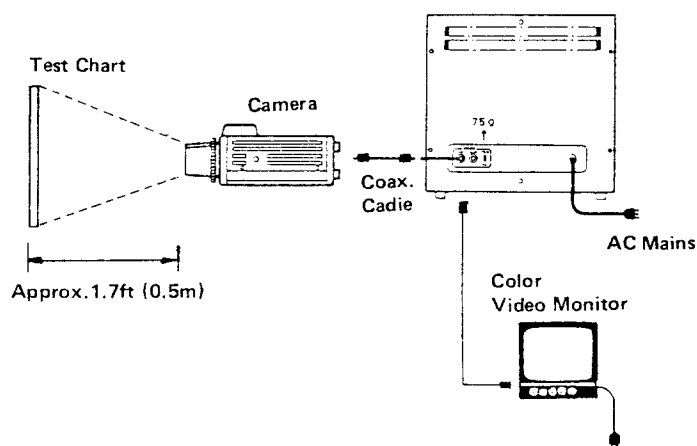

Fig. 4-1
- Connect the coaxial cable between VIDEO OUTPUT connector of Color Video Monitor WV-CM140 and color video monitor. (Fig. 4-1)